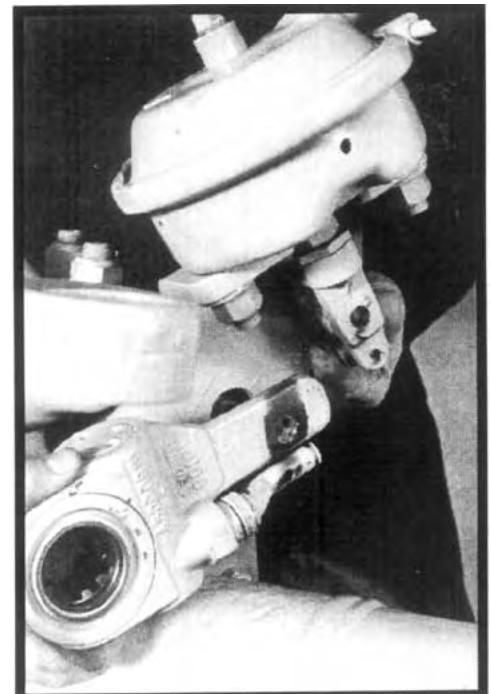

Figure 11
6. Remove both cotter pins and clevis pins from the slack adjuster to detach it from the air chamber push rod. It may be necessary to turn the adjuster slightly to withdraw the clevis pins from their holes. See Figure 11.